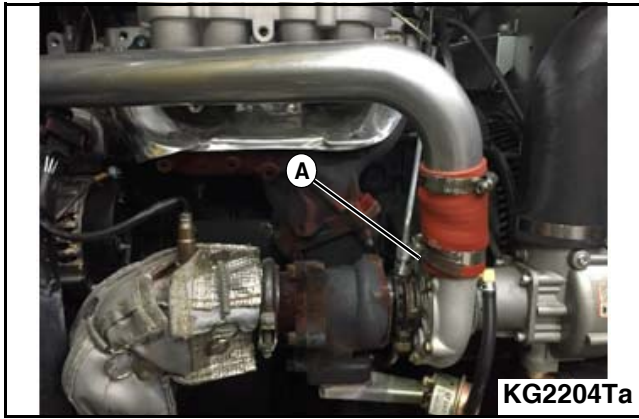

Figure 3-52
4. Connect the turbocharger compressor discharge hose to the turbocharger compressor outlet. Tighten the hose clamp (A) onto the hose (4.5 N•m [3.3 ft.lb.]). **See Figure 3-52.**